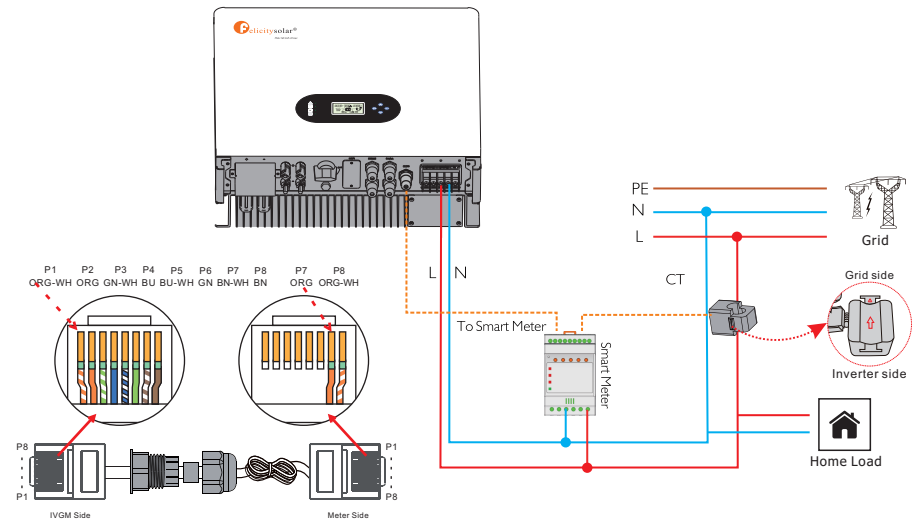

Figure 4.4-4 Smart meter connection
**Note :** The cable should be made refer to Figure 4.4-4
Make sure Meter & CT are connected between house loads and grid, and follow the Smart Meter direction sign on CT, refer to Figure 4.4-4.